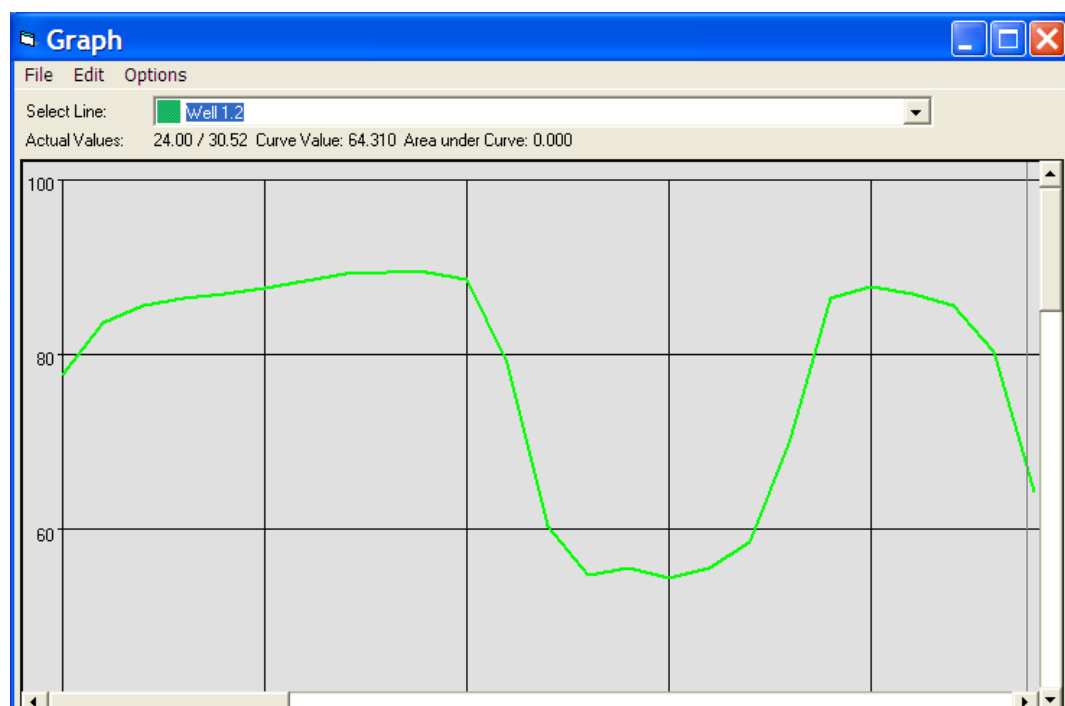

Figure 7-16: Graph displaying an individual curve
2. In Select Line, choose the individual curve to view. Graph displays only the chosen curve (Figure 7-16).